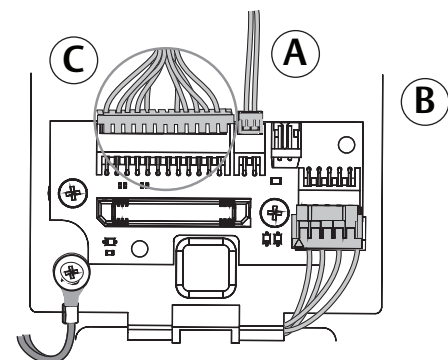
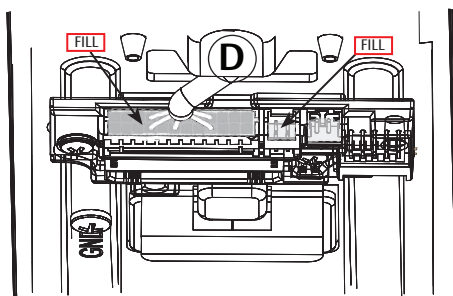

Figure 6-3B
Figure 6-3C
3. Secure the following connectors (Figure 6-3B, Figure 6-3C).
- Secure the mounting assembly while ensuring proper alignment of outside reader and fully tighten the (2) through-bolts on the inside of the door to secure the reader and plate to the door
- C. Secure the 24-pin card reader connector. (Figure 6-3B, Figure 6-3C)
- D. Ensure all openings on back of secured reader connector are covered completely with grease. (Figure 6-3C)